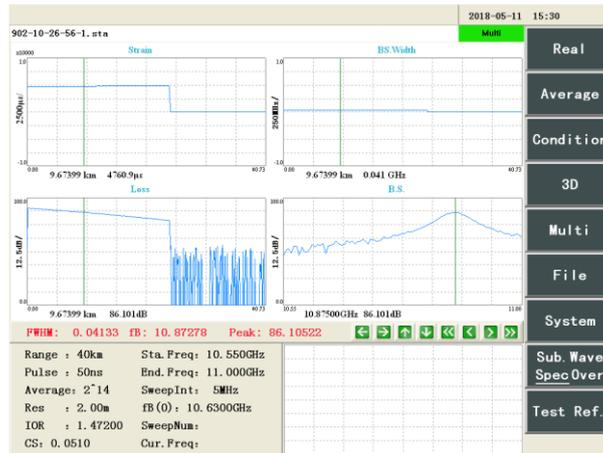

Figure G-1 Multi window
Step 3 Choose Multi > Loss, as shown in Figure G-1.